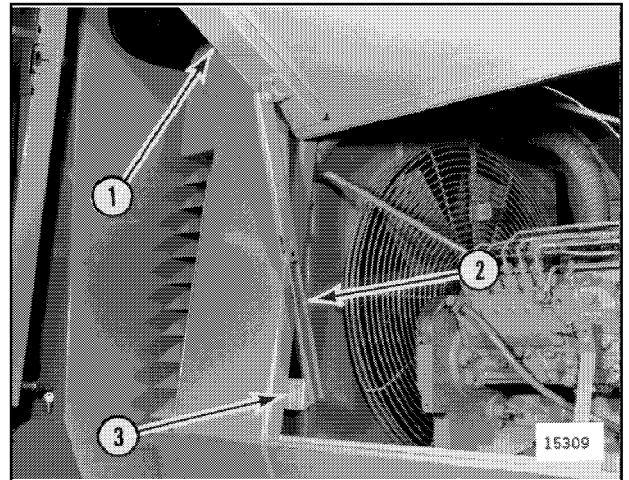

Figure 28
13. With hood side (1, Figure 28) still supported, install locking support (2) between hood side and front cowl (3).